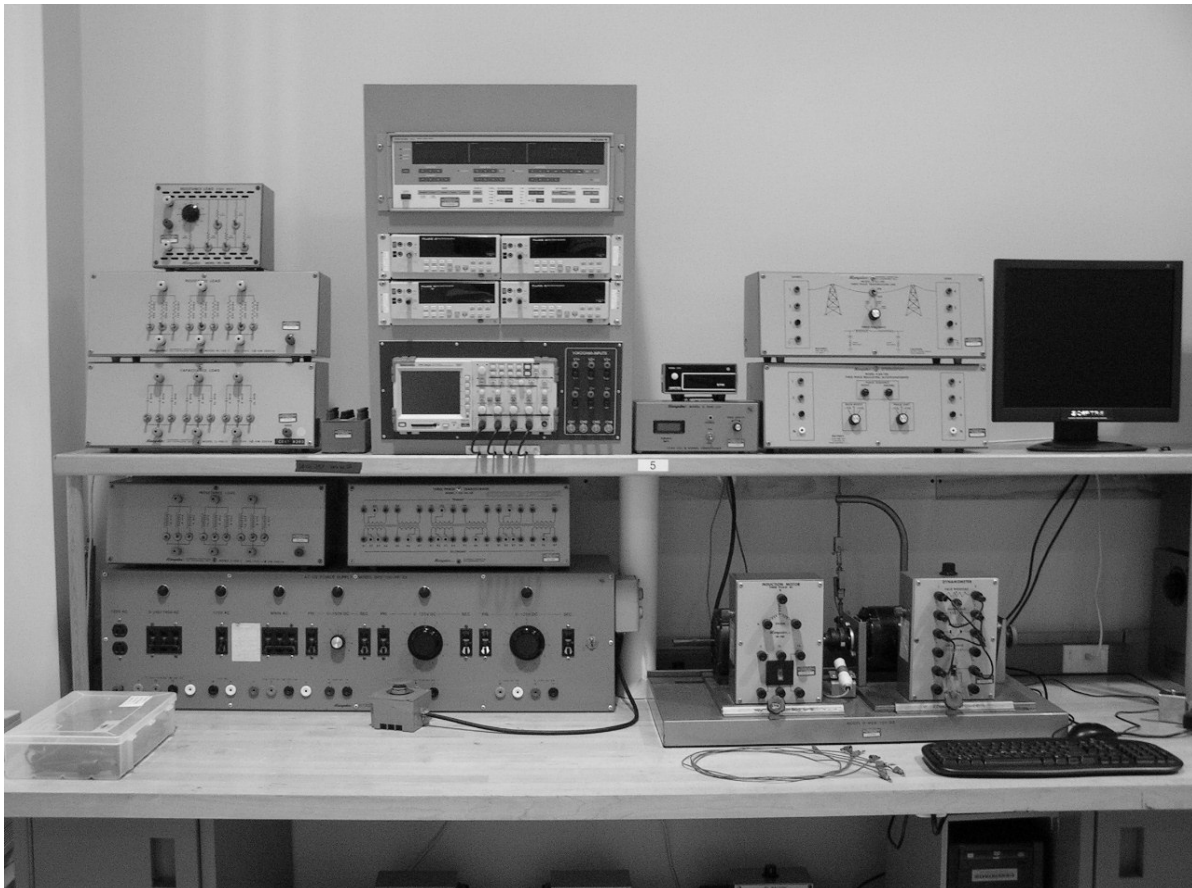

Figure 1 - Lab Equipment
- 1.2 The purpose of this section is to get you familiar with the equipment you will be using in the lab. Figure 1 shows a typical bench set-up.